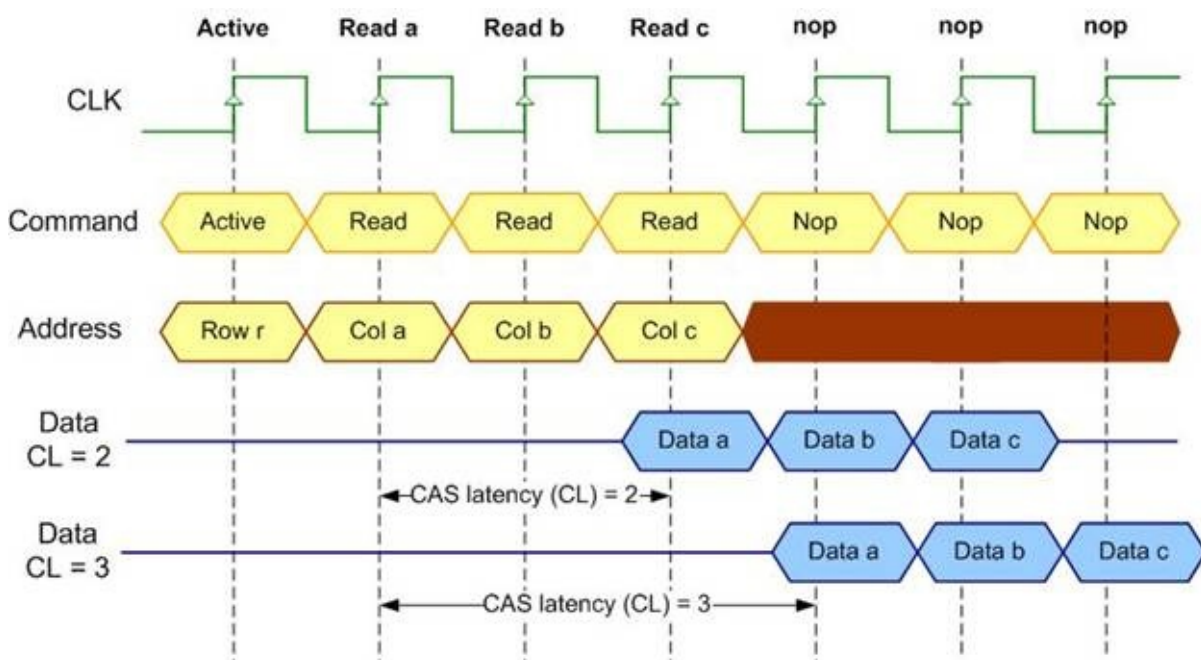

Figure 13-13: SDRAM CAS Latency
In read operation it can be programmed that how many clocks after CAS will the data appear at the data pins. It is called CAS latency or read latency and can be 1, 2, or 3 clocks. Figure 13-13 shows data for CAS latency (CL) = 2 and CL = 3